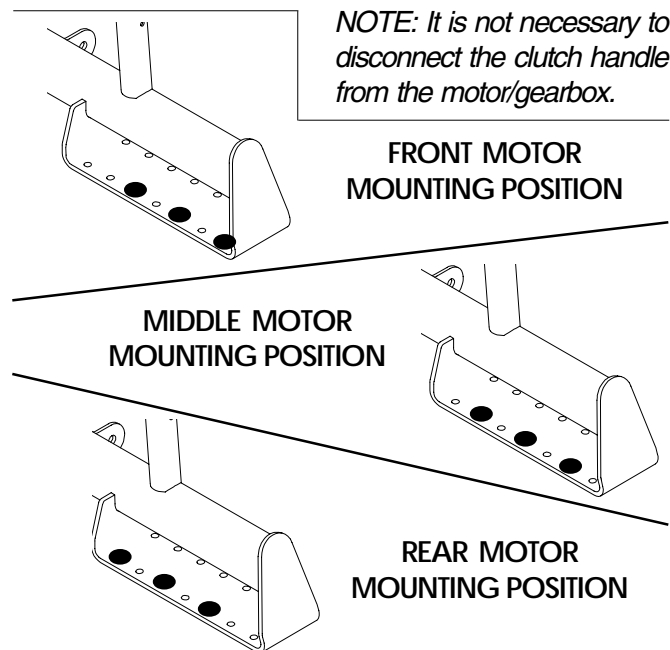

FIGURE 26 - REPOSITIONING MOTORS
REPOSITIONING MOTORS (FIGURE 26)
- Perform one (1) of the following:
- Remove the six (6) socket screws that secure the motor to the wheelchair frame.
- Position the motor on the wheelchair frame at the position noted in STEP 5 as shown in FIGURE 26.